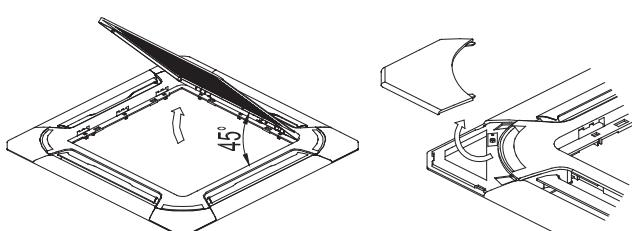

Fig.5-8
- Draw the grill up to an angle of about 45, and remove it. (Refer to Fig.5-8)